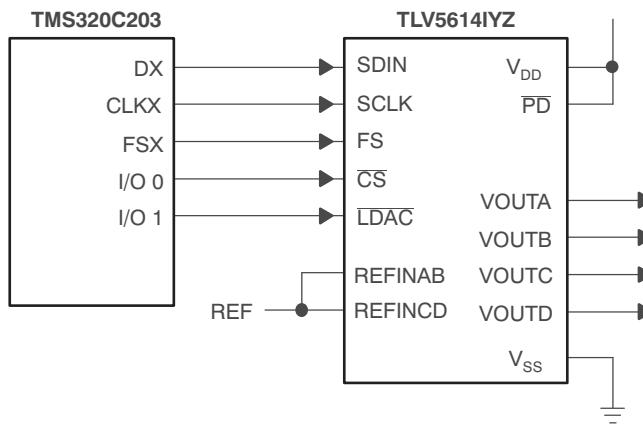

Figure 17. TLV5614IYZ Interfaced With TMS320C203
Figure 17 shows an example of how to connect the TLV5614IYZ to a TMS320C203 DSP. The serial port is configured in burst mode, with FSX generated by the TMS320C203 to provide the frame sync (FS) input to the TLV5614IYZ. Data is transmitted on the DX line, with the serial clock input on the CLKX line. The general-purpose input/output port bits IO0 and IO1 are used to generate the chip select (\overline{CS}) and DAC latch update (LDAC) inputs to the TLV5614IYZ. The active low power-down (\overline{PD}) is pulled high all the time to ensure the DACs are enabled.